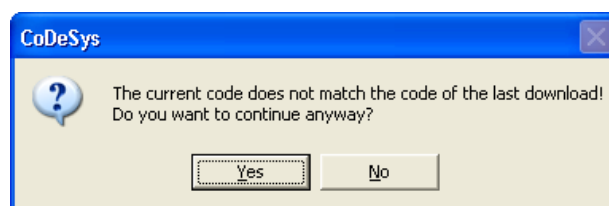

Figure 2-3-19 Create Boot Project
- **Online [O]/Create boot project [C]:** Set the project downloaded in PLC as a default project when starting the PLC. A boot project is a user program which is saved in flash of PLC and can be run after it is powered on. If the codes of boot project are different from the codes downloaded last time, a message as shown in figure 2-3-19 will appear: The current code is different from the code downloaded last time, continue? Generally Yes should be chosen to create a boot project. In offline mode a new *.ri file will be created. Refer to section 8.3.3 for the difference between “Online” “Create boot project”, “Login” and “Download”.